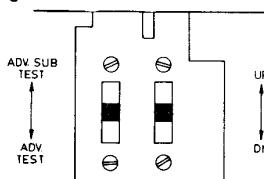

FIGURE 1-4 SELF TEST SWITCHES
There are two (2) Self Test Switches and four (4) positions, located on the inside of Coin Door. See Figure 1-4. The "YOYO"™ game is capable of testing itself and provides data to demonstrate that the game's circuitry and the controls are working properly. For further information on the Self Test Procedure refer to Section 1.8 and Figure 1-7.